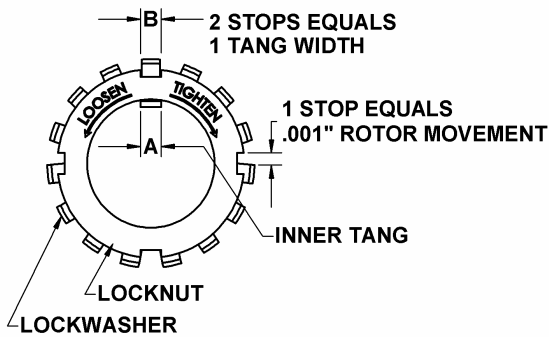

Figure 8 – Locknut Assembly
It is important that the bearing locknuts (24A) and lockwashers (24B) be installed and adjusted properly. Overtightening locknuts can cause bearing failure or a broken lockwasher tang. Loose locknuts will allow the rotor to shift against the discs (71), causing wear. See Figure 8.
- Tighten both locknuts (24B) to ensure that the bearings (24) are bottomed in the head recess. DO NOT overtighten and bend or shear the lockwasher inner tang.
- Tighten the opposite locknut (24A) by hand until it is snug against the bearing (24). Then, using a spanner wrench, tighten the nut the width of one lockwasher tang "B". Tighten just past the desired tang, then back off the nut to align the tang with the locknut slot. Secure the nut by bending the aligned lockwasher tang into the slot in the locknut. The pump should continue to turn freely when rotated by hand.
16. Inspect the grease seal (104) for wear or damage and replace as required. Grease the outside diameter of the grease seal and push it into the inboard bearing cover (27) or bracket mount (108) with the lip of the seal inward (towards the pump).
17. Attach a new bearing cover gasket (26) and the inboard bearing cover (27) to the inboard head (20). Install the outboard bearing cover (27A) and a new gasket to the outboard head. Make sure the grease fittings (76) on the bearing covers are accessible. Install and torque the bearing cover capscrews (28) to 8 lbs ft (10.8 Nm).